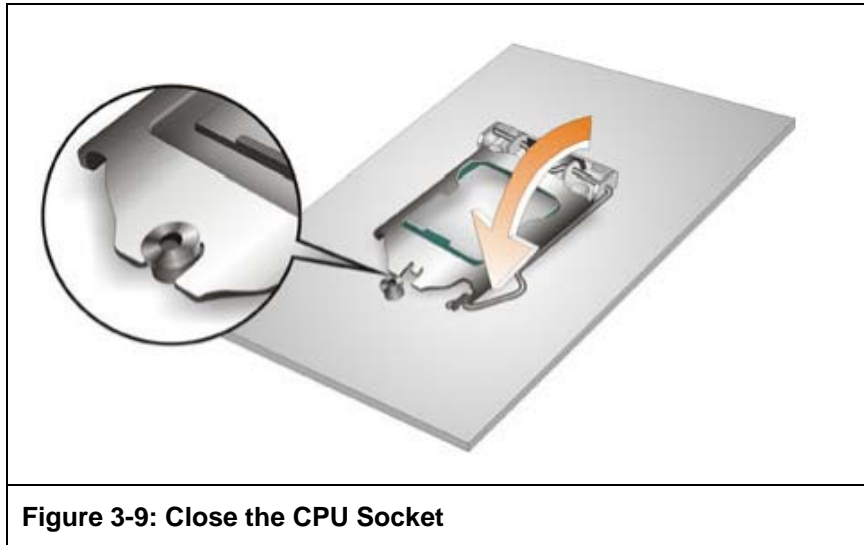

Figure 3-9: Close the CPU Socket
- Step 11: Close the CPU socket.** Close the load plate and pull the load back a little to have the load plate be able to secure to the knob. Engage the load lever by pushing it back to its original position. See **Figure 3-9**. There will be some resistance, but will not require extreme pressure.